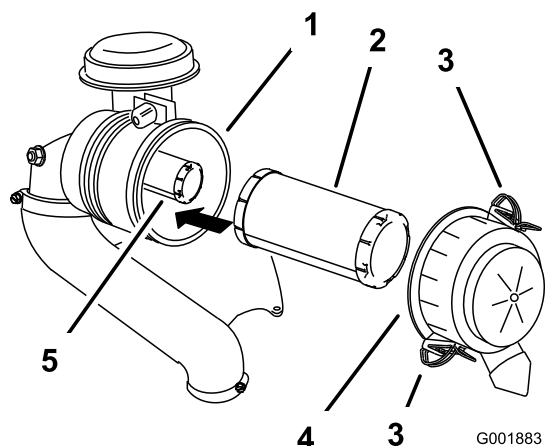

Figure 48
3. Release the latches on the air cleaner and pull the air-cleaner cover off the air-cleaner body (Figure 48).
5. Gently slide the primary filter out of the air-cleaner body (Figure 48).
2. If you are replacing the inner filter, carefully slide it into the filter body (Figure 48).
3. Carefully slide the primary filter over the safety filter (Figure 48).
4. Install the air-cleaner cover and secure the latches (Figure 48).